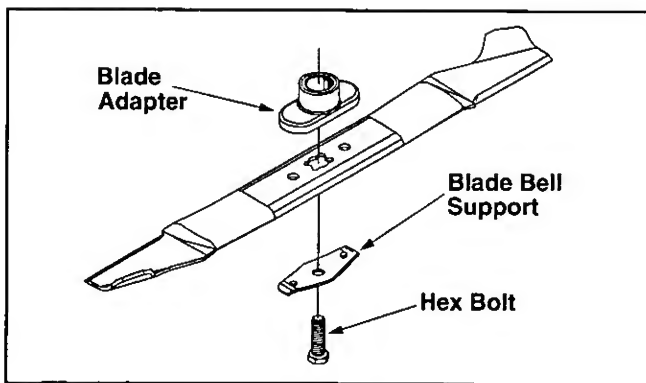

Figure 16
- Remove the bolt and the blade bell support which hold the blade and the blade adapter to the engine crankshaft. See Figure 16.